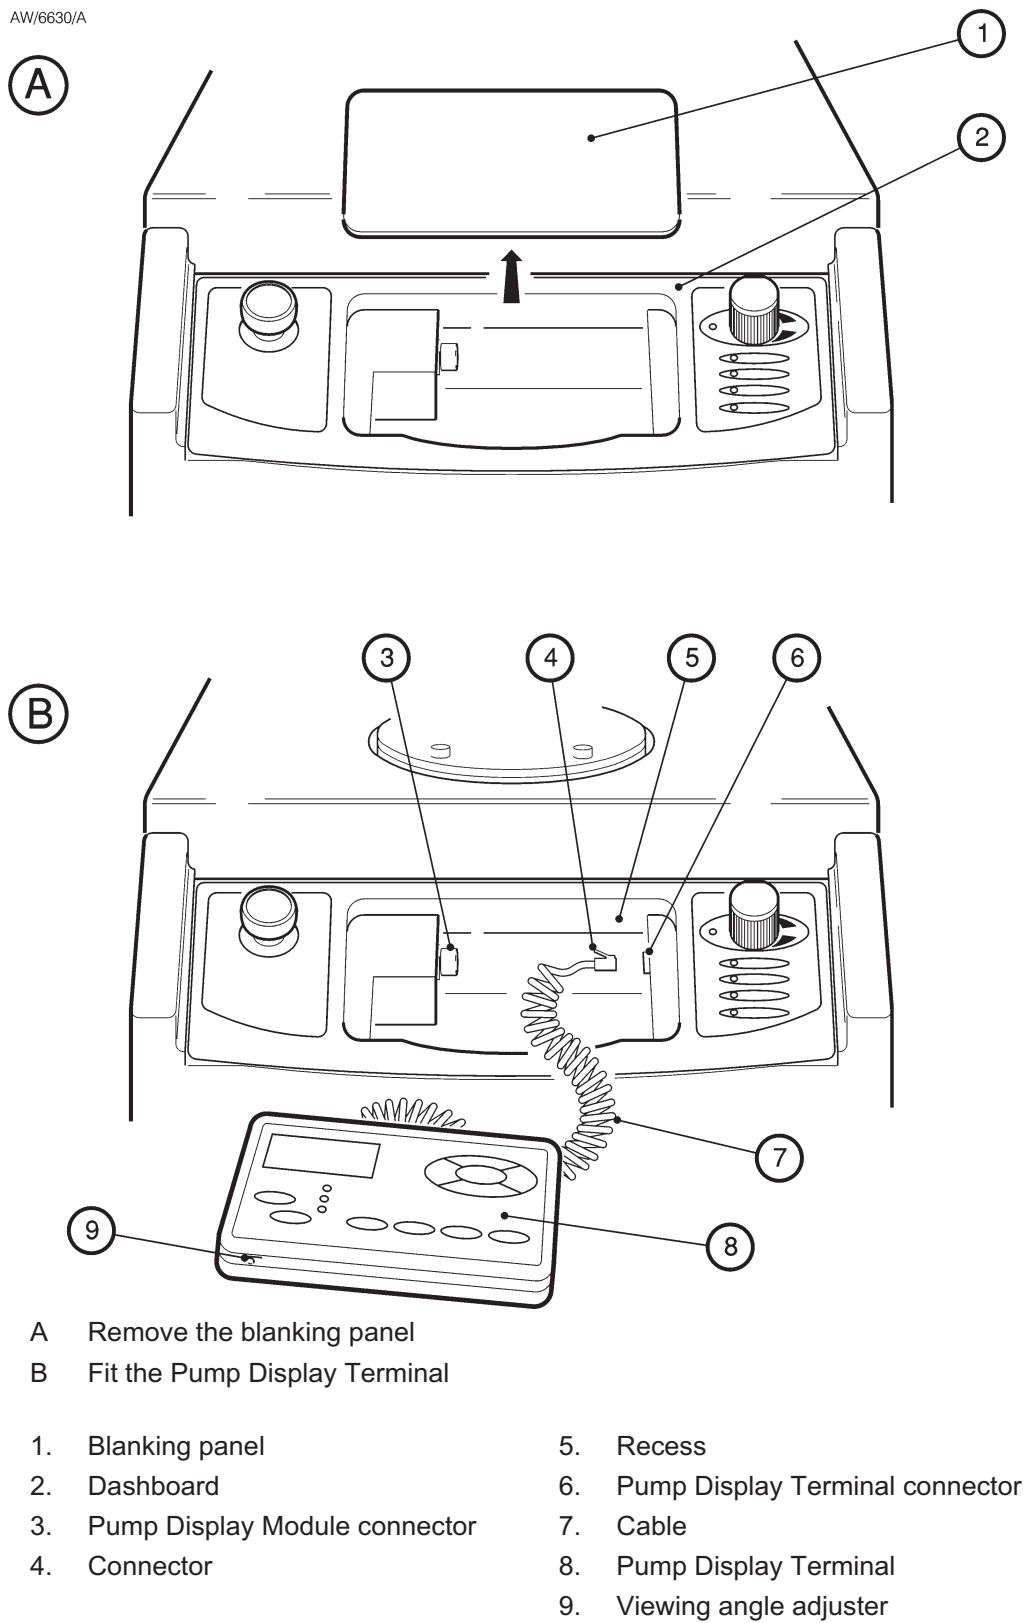

Figure 3-6 - Fit the pump display terminal
2. Refer to Figure 3-6. Remove the blanking panel (1) from the dashboard (2).
3. Fit the connector (4) on the end of the cable (7) to the Pump Display Terminal connector (6) in the recess (5) in the dashboard.